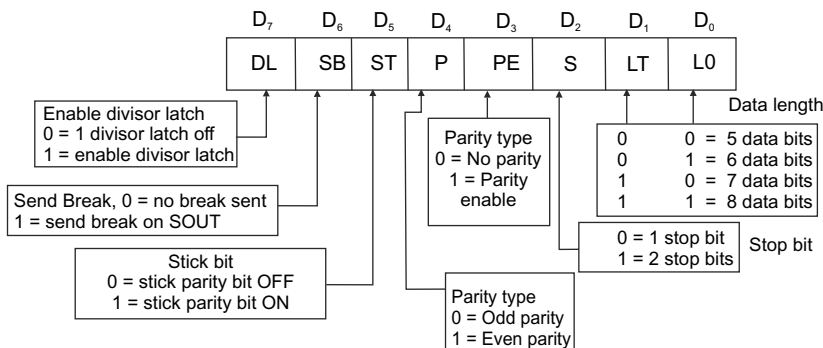

Fig. 9.100 Line control register
✓ **LCR** The LCR (Line Control Register) is a read/write type register. This register holds the number of data bits (word length), stop bit length, parity selection and break. Figure 9.100 shows the line control register, and the function of Stick Bit (ST) and parity bits is illustrated in Table 9.20.